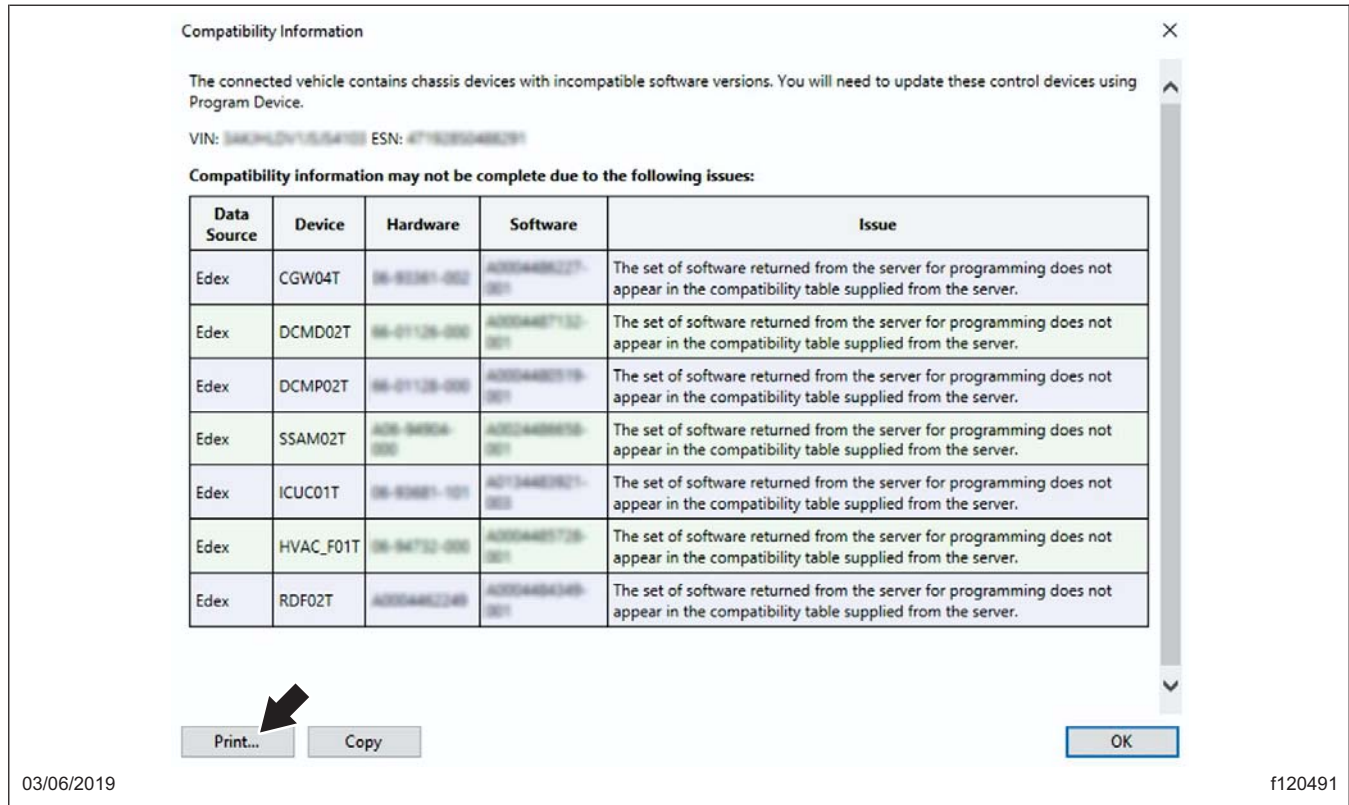

Fig. 6, Printing the Compatibility Information Window
12.1 Print, or capture a screen shot of the 'Compatibility Information' window; an example of this window is shown in **Fig. 6**.